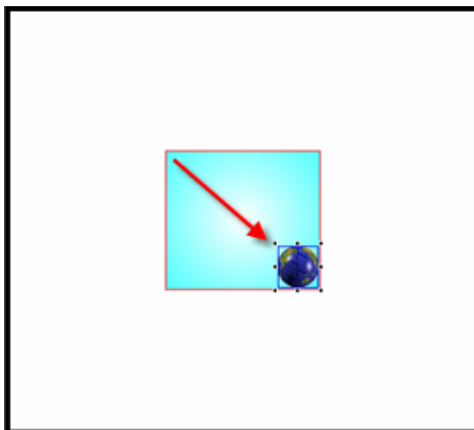

FIG. 323 Image/Text Positioning dialog - set the bitmap's end position
8. Click on the bitmap in the preview window and drag the bitmap (or text) into it's start position (FIG. 323):